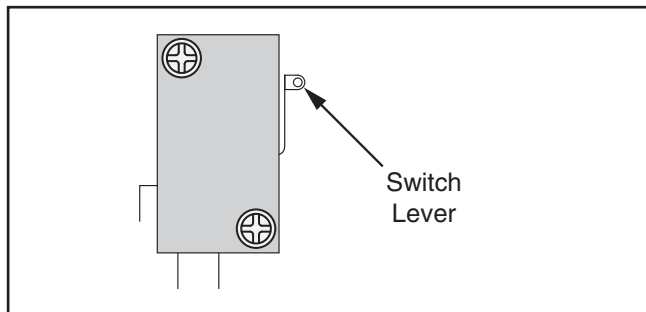

Figure 29. Example of typical limit switch lever.
8. Verify x-axis limit switch is functioning correctly by pushing in switch lever (see **Figure 29**) until an audible click is heard.